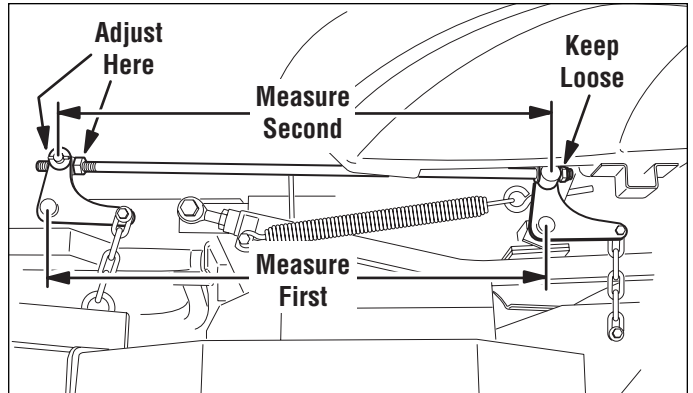

Figure 12. Measure & Adjust Lift Rod Timing
3. To check the lift rod timing, measure and record the distance between the lift pivots and the rod pivots. Repeat for other side of unit. See Figure 12.
5. Refer to Figure 12. To adjust the lift rods, adjust the 5/8" hex nuts on either side of the front lift pivot until the measurements are equal. Repeat for other side. Make sure the nylon lock nut on the end of the rod towards the rear of the machine is loose to allow the rod to turn in the rear lift pivot.